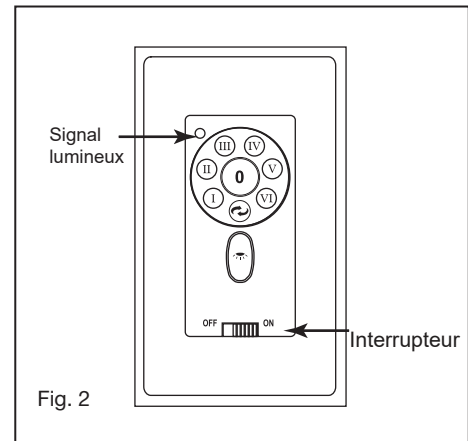

Fig. 2
- 7** Signal lumineux (Fig.2)6